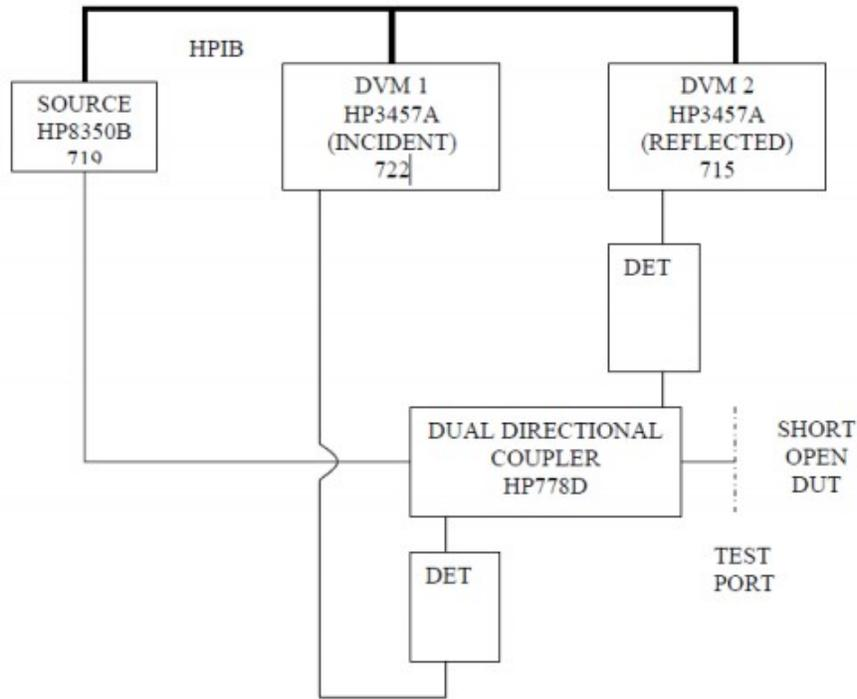

Figure 4: Scalar Reflectometer Setup
2. Connect the instruments as shown in Figure 4. The measurements should be made over the 300 to 1,300MHz frequency range for every 5MHz (201 points) at 5dBm (or another appropriate power level within the square-law region of your detector).